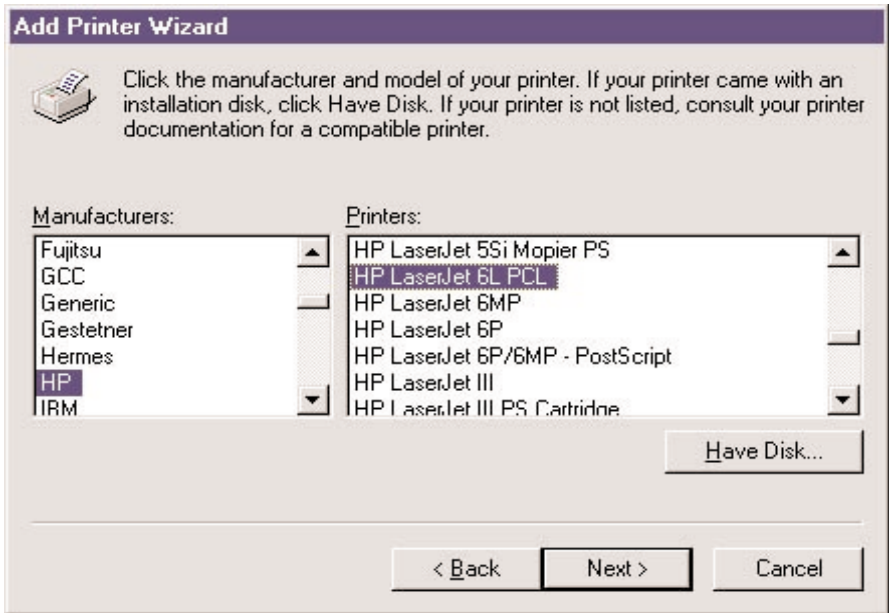

Figure 4-15. Selecting the printer manufacturer and model.
4. Select **Local printer**. To go back to the previous screen, click on the **Back** button. To cancel your changes, click on the **Cancel** button. To save the changes and go to the next screen, click on the **Next** button. Figure 4-15 appears.
To go back to the previous screen, click on the **Back** button in Figure 4-15. Click on the **Cancel** button to cancel your changes.